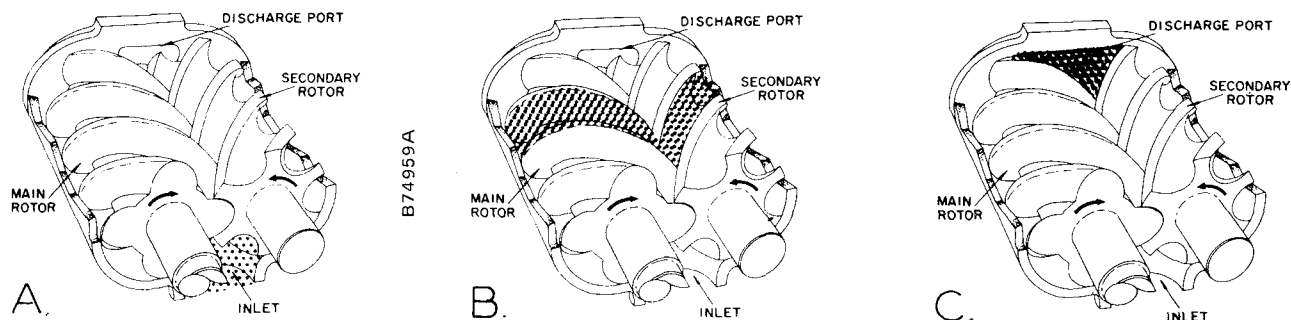

FIGURE 1-1. — COMPRESSION CYCLE
COMPRESSION PRINCIPLE (Figure 1-1) — Compression is accomplished by the main and secondary rotors synchronously meshing in a one-piece cylinder. The main rotor has four (4) helical lobes 90° apart. The secondary rotor has six (6) matching helical grooves 60° apart to allow meshing with main rotor lobes.
The air inlet port is located on top of the compressor cylinder near the drive shaft end. The discharge port is near the bottom at the opposite end of the compressor cylinder. *Figure 1-1 is an inverted view to show inlet and discharge ports.* The **compression cycle** begins as rotors unmesh at the inlet port and air is drawn into the cavity between the main rotor lobes and secondary rotor grooves (A). When the rotors pass the inlet port cutoff, air is trapped in the interlobe cavity and flows axially with the meshing rotors (B). As meshing continues, more of the main rotor lobe enters the secondary rotor groove, normal volume is reduced and pressure increases. Oil is injected into the cylinder by proprietary means to remove the heat of compression and seal internal clearances. The Electra-Saver II utilizes Gardner-Denver's exclusive Intensive